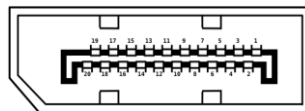

Figure 3-28: External DP Connector Pinouts
- CN Location:** See **Figure 3-28**